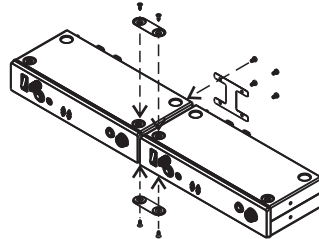

Fig. 6
- (B) Insert top and bottom plates to joint two transmitters. Fasten screws. Fig. 6